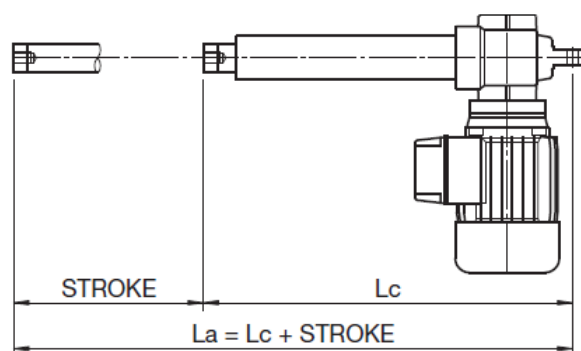

Figure 6.6 – “Lc” and “La” dimensions
- The maximum ring positions on the rod consist on the extreme stroke lengths positions “Lc” and “La” (see Fig. 6.6).
- The positions of the two limit switches are the extreme travel positions Lc and La (see Fig. 6.6).
- Check if the extreme dimensions of the actuator “Lc” and “La” (see Fig. 6.6) are compatible with extreme positions of the plant component that has to be moved.
- Before to start relubrication, put the actuator in extended position (La – see Fig. 6.6)